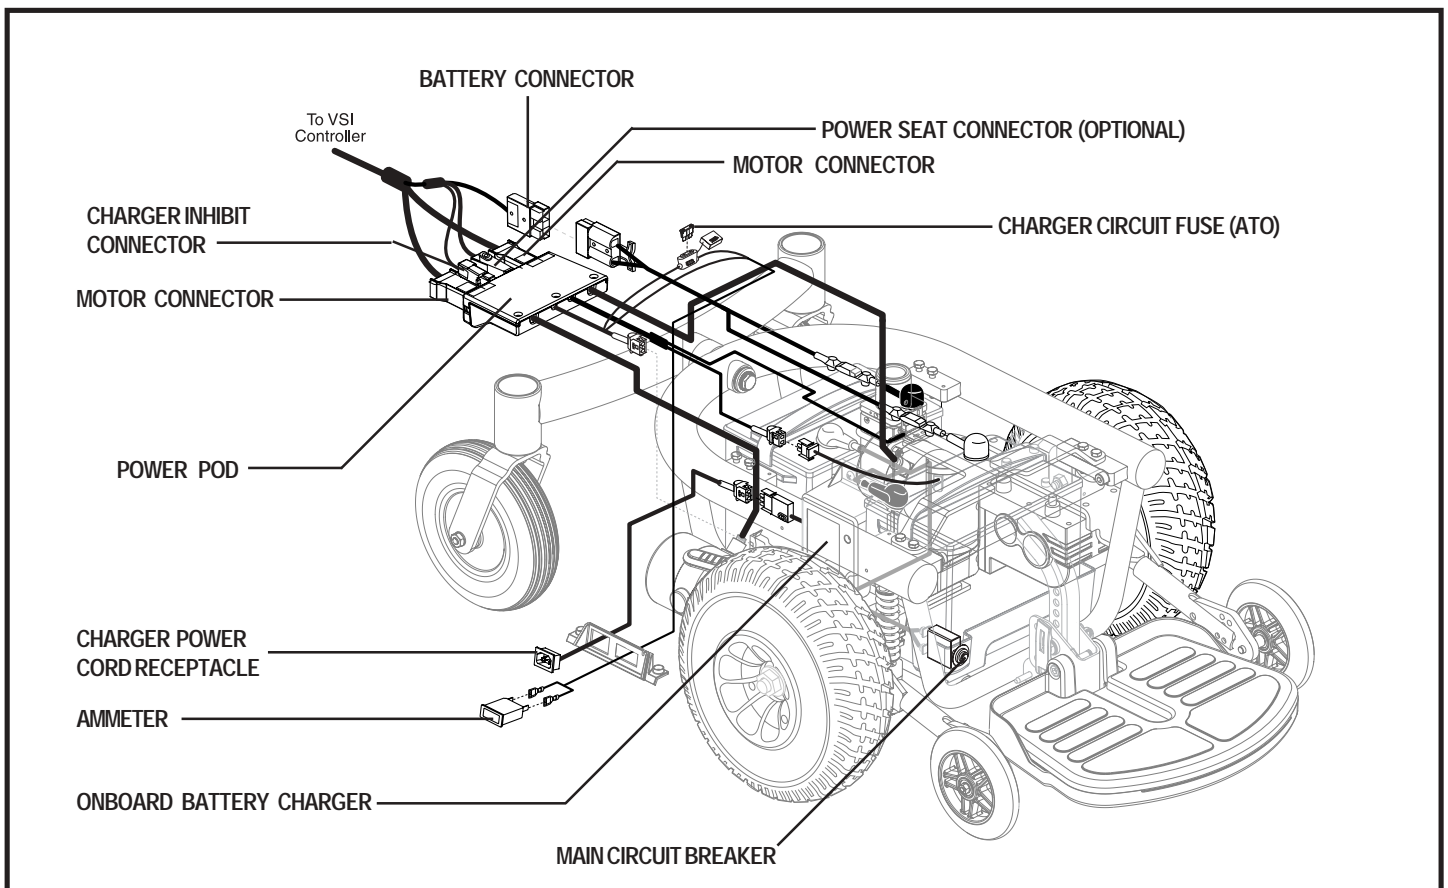

Figure 7. Quantum 1103 Ultra Series Electrical Components
The electrical components are located on the power base. The ammeter and the charger power cord receptacle are located on the right side of the power base. The main circuit breaker is located on the front of the battery tray. The controller connector and the motor connectors are located on the power pod, inside the power base. See figure 7.
8. Plug the controller connectors into the power pod and connect the battery connector. See figure 7.
3. Disconnect the controller connectors from the power pod. See figure 7.